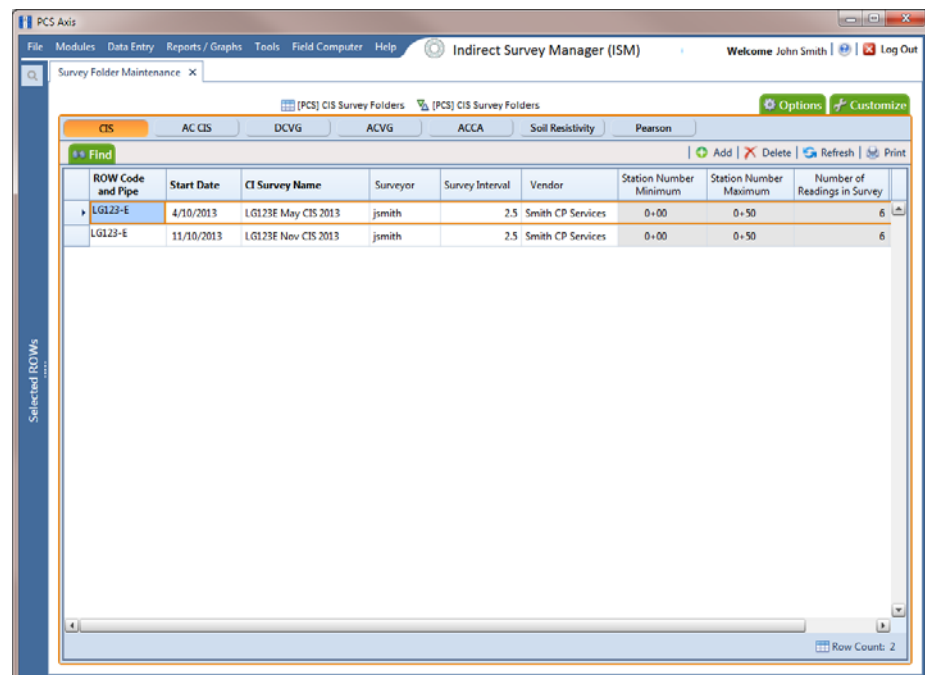

Figure 6-4. Survey Folder Maintenance
- 3 Click **Data Entry > Survey Folder Maintenance** to open the *Survey Folder Maintenance* window (Figure 6-4).
- 4 Click a button labeled with the type of continuous survey that you want to add a survey folder. For example, clicking the **CIS** button  adds a survey folder for close interval survey readings (Figure 6-4).